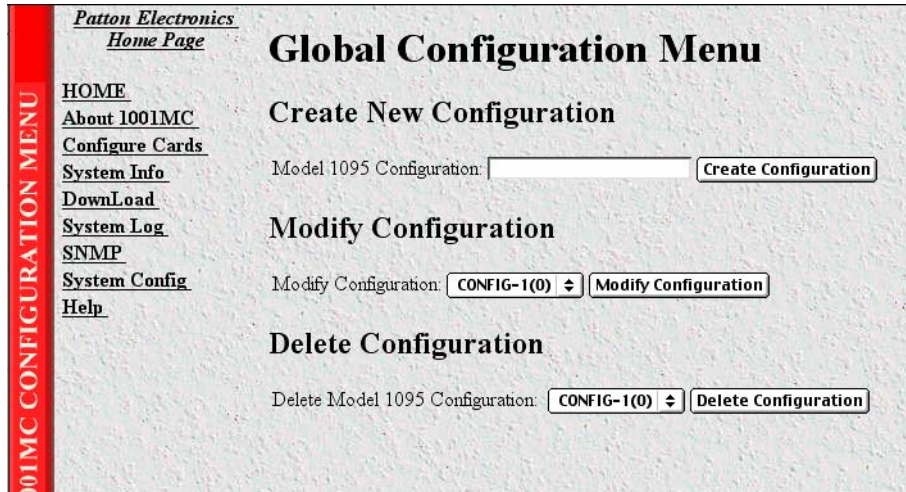

Figure 58. Global Configuration Menu page
1. Click in the Model 1095 Configuration text box (see figure 58) and type a short name (10 characters or less) for the new template, then click the **Create Configuration** button.